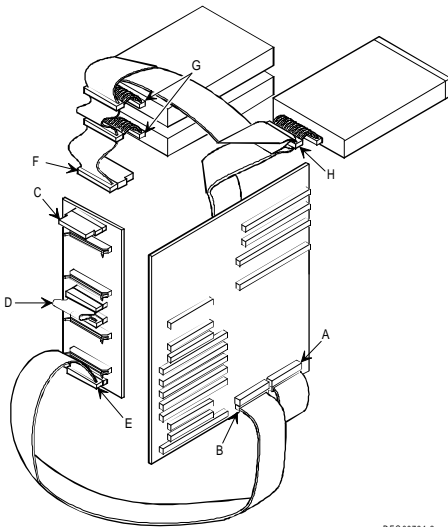

Figure 3 - 23 Two Channel SCSI Configuration
- 1) Connect the cables as shown in Figure 3 - 24.